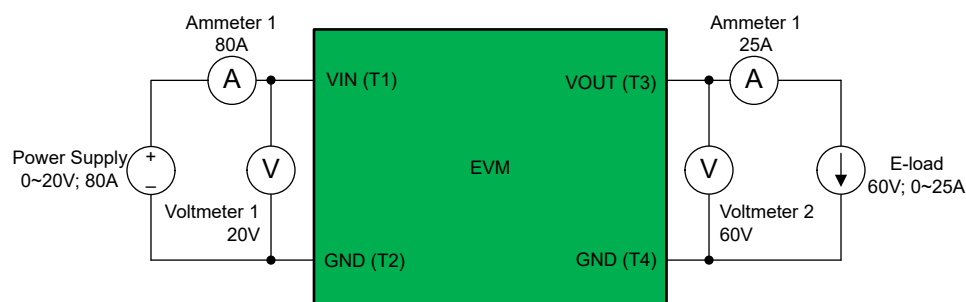

Figure 3-1. EVM Test Setup
Figure 3-1 shows the required test setup to evaluate the EVM.
2. Prepare the setup following Figure 3-1.